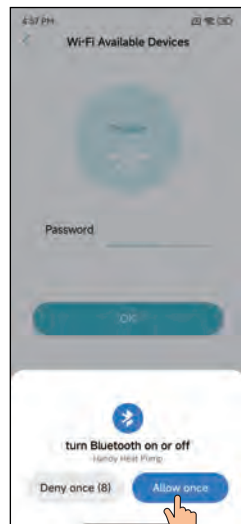

Fig.26 Enable bluetooth permission
4. Click "Allow Once" to allow bluetooth permission (Fig. 26);